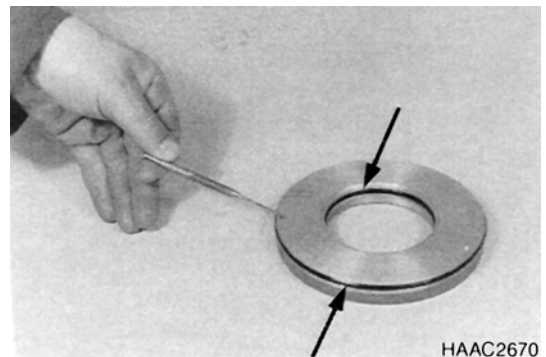

Figure 188
4. Insert both O-rings (Figure 188) into the piston recesses and oil them.